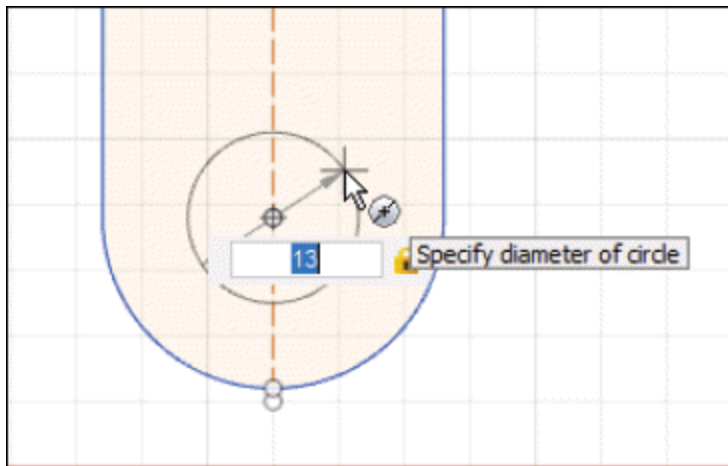

Figure-116. Circle creation
- Click at the center point of the bottom arc and move the cursor; refer to Figure-116.